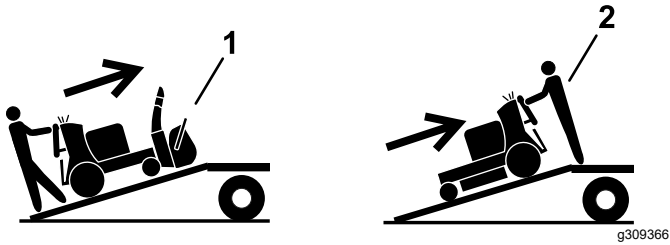

Figure 31
- If the attachment is not installed, load the machine with the rear up the ramp (Figure 31).